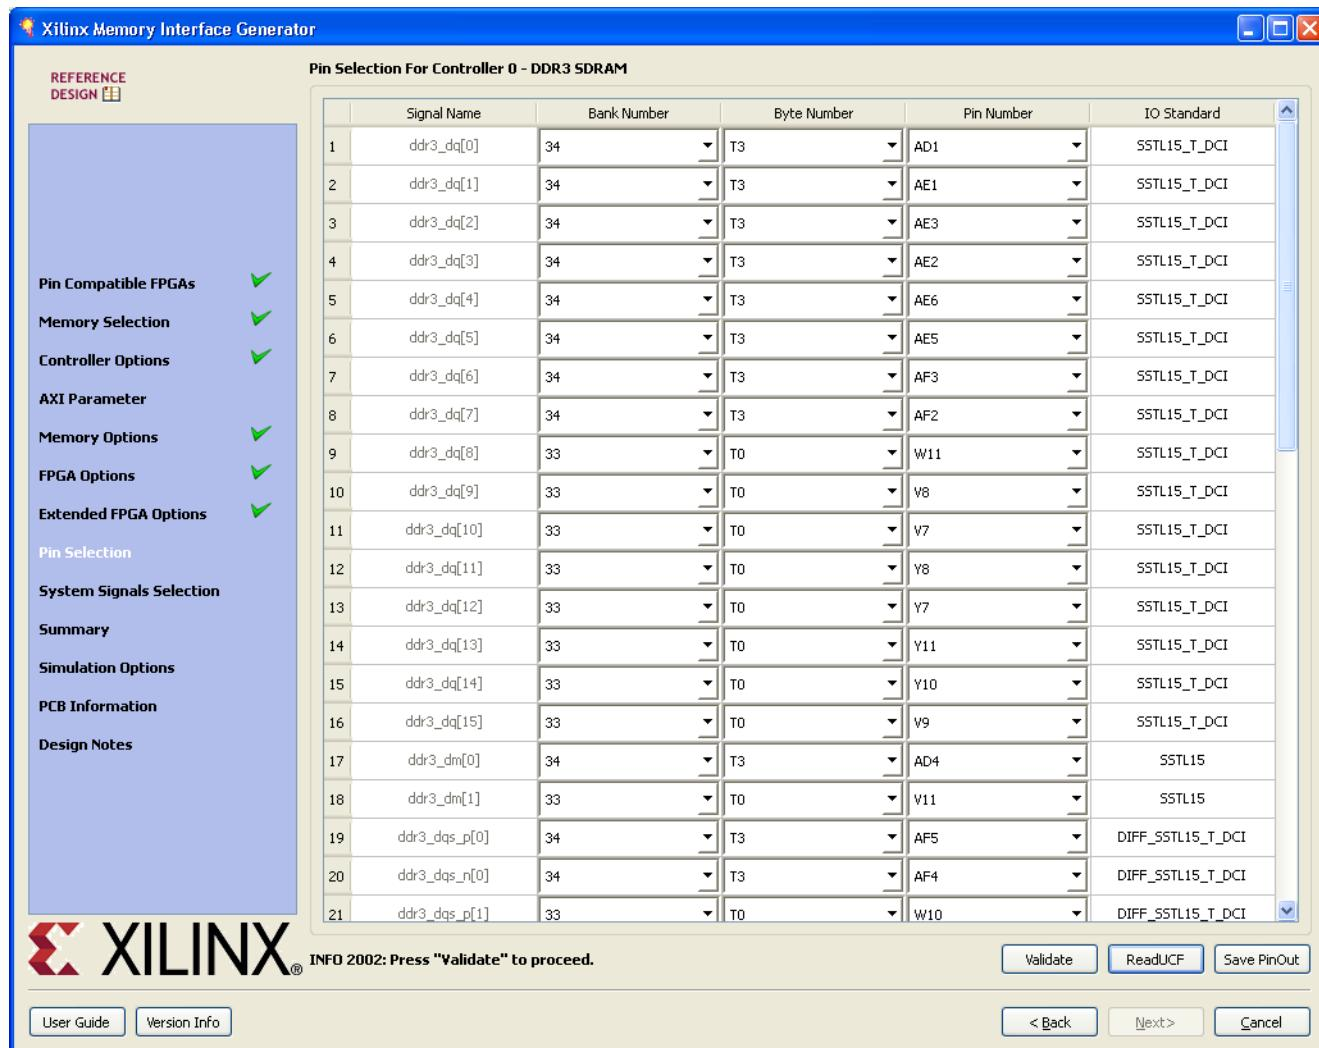

Figure 1-18: Pin/Bank Selection Mode
- **Pin/Bank Selection Mode** – This allows you to specify an existing pinout and generate the RTL for this pinout, or pick banks for a new design. Figure 1-18 shows the options for using an existing pinout. You must assign the appropriate pins for each signal. A choice of each bank is available to narrow down the list of pins. It is not mandatory to select the banks prior to selection of the pins. Click **Validate** to check against the MIG pinout rules. One cannot proceed until the MIG DRC has been validated by clicking the **Validate** button.